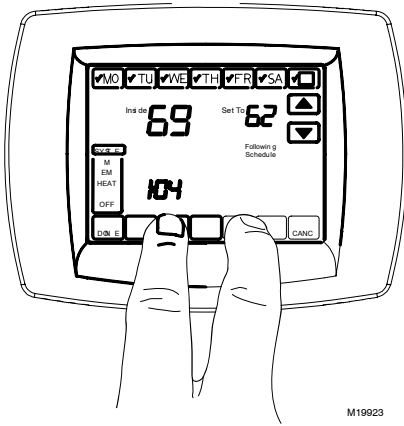

Figure 15. Entering Installer Setup.
2. Press and hold the two blank keys on either side of the center blank key for approximately five seconds (see figure 15).